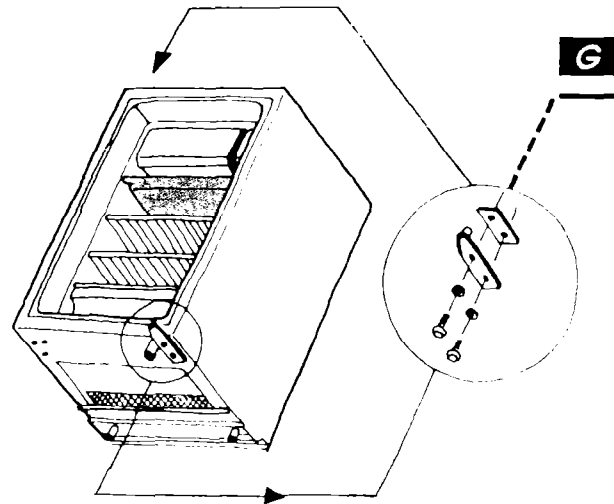

Fig. 5
- Tilt your REFRIGERATOR backwards 45° at most, and remove screws "G" (Fig. 5). They must be screwed to the upper left side of the REFRIGERATOR.